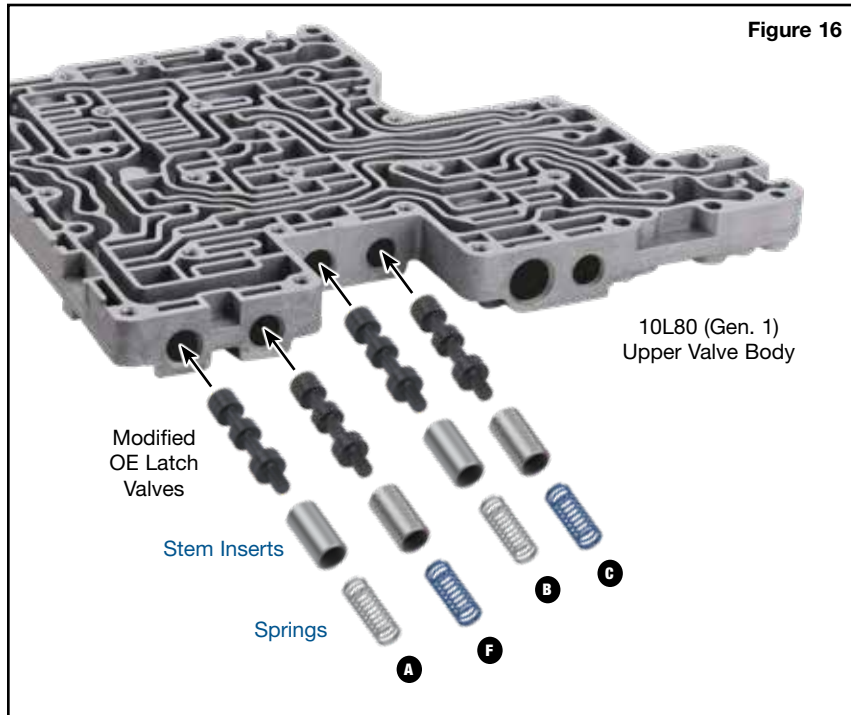

Figure 16
- j. Install one modified valve into each A, B, C & F bore (Figure 16).